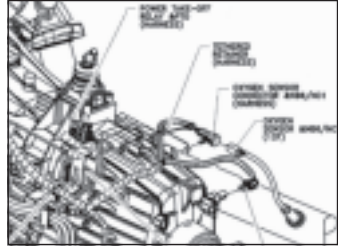

Fig. 20
22. On the right side of the transmission is a bracket for the oxygen sensor wiring harness (for California vehicle w/8.1L engines). This bracket is on all vehicles and may interfere with the hydraulic tubes. If the oxygen sensor wiring harness is on the vehicle, bend the bracket in towards the center of the transmission. If the vehicle has only the bracket, the bracket may be removed and the bolt torqued to 17 lbs. ft. [23 N.m]. Do not apply sealant to bolt (Fig. 20).